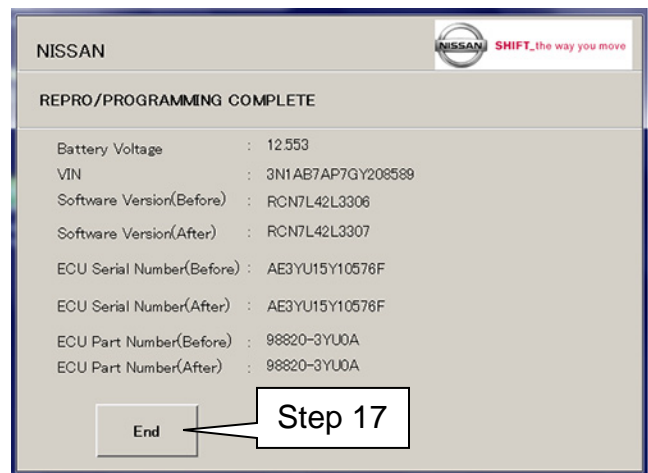

Figure 23
- Once the reprogramming has finished the screen in Figure 23 will be displayed.